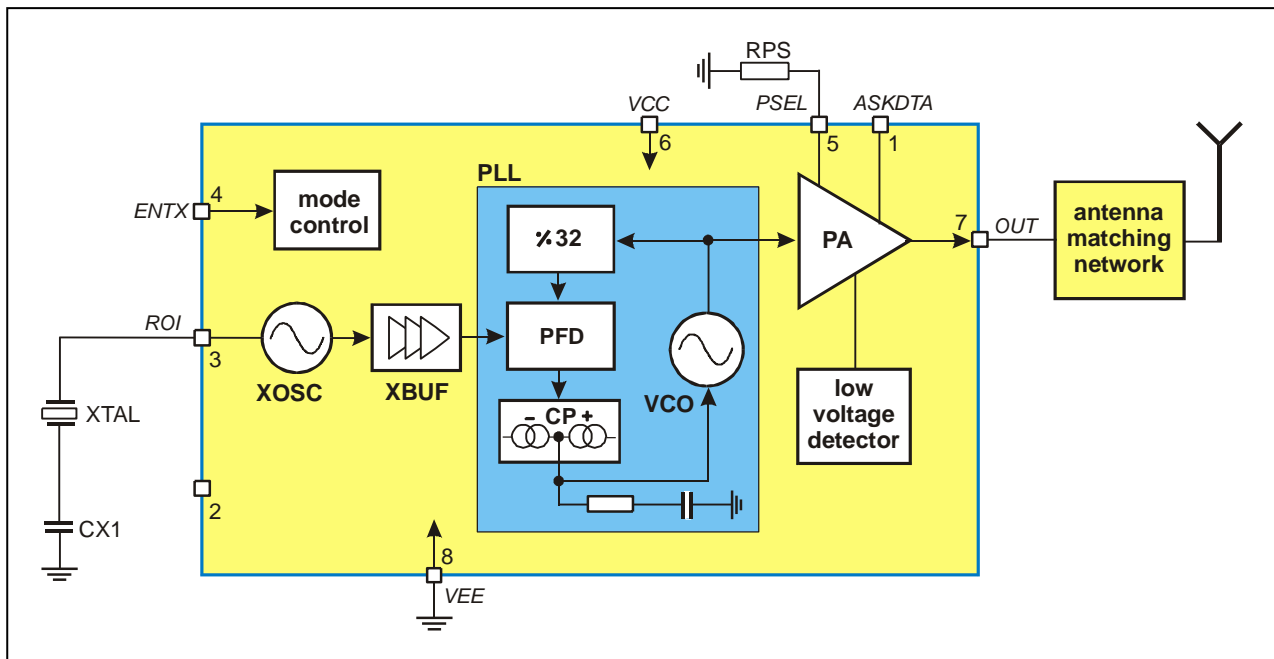

Fig. 1: Block diagram with external components
As depicted in Fig.1, the TH72012 transmitter consists of a fully integrated voltage-controlled oscillator (VCO), a divide-by-32 divider (div32), a phase-frequency detector (PFD) and a charge pump (CP). An internal loop filter determines the dynamic behavior of the PLL and suppresses reference spurious signals. A Colpitts crystal oscillator (XOSC) is used as the reference oscillator of a phase-locked loop (PLL) synthesizer. The VCO's output signal feeds the power amplifier (PA). The RF signal power P_{out} can be adjusted in four steps from $P_{out} = -12$ dBm to $+10$ dBm, either by changing the value of resistor RPS or by varying the voltage V_{PS} at pin PSEL. The open-collector output (OUT) can be used either to directly drive a loop antenna or to be matched to a 50ohm load. Bandgap biasing ensures stable operation of the IC at a power supply range of 1.95 V to 5.5 V.